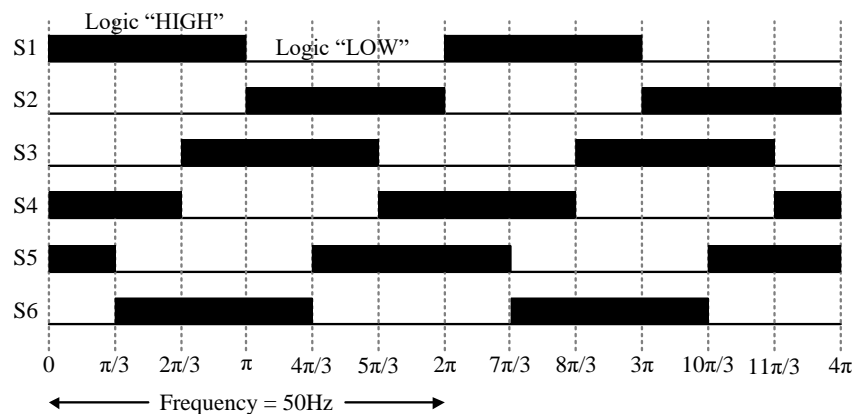

Figure 1 Device signals for three-phase inverter operating in six-step operation.
1. Program your Il Matto to produce 6 PWM signals as illustrated in Fig. 1. The frequency is 50Hz and the dead time is 1 μ s.